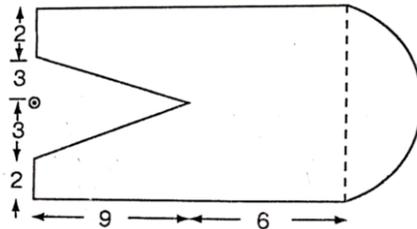

Figure 6
b) Locate the centroid of the given lamina as shown in Figure 6. All dimensions are in cm.